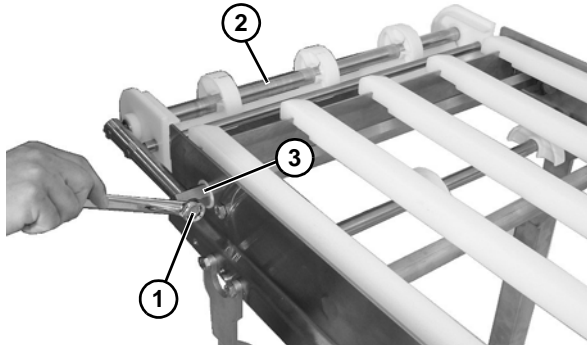

Figure 59
1. Remove bolt (**Figure 59, item 1**) from each side, and remove idler tail assembly (**Figure 59, item 2**) from take up blocks (**Figure 59, item 3**).